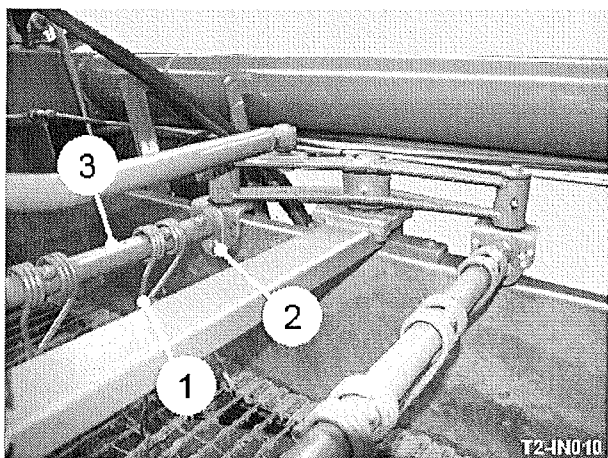

Fig 10
To set the height of the fingers (item 1, fig 10) above the web, remove the clamp bolts (item 2, fig 10) and rotate the mounting bar (item 3, fig 10) until the fingers are at the required height. It is not always necessary to set both rows of clod fingers completely down, it is often better to have the second row lower than the first. In heavy green top or rubbish, the clod fingers may cause material to ball up and overload the haulm roller. If this occurs, the fingers should be lifted out of work.